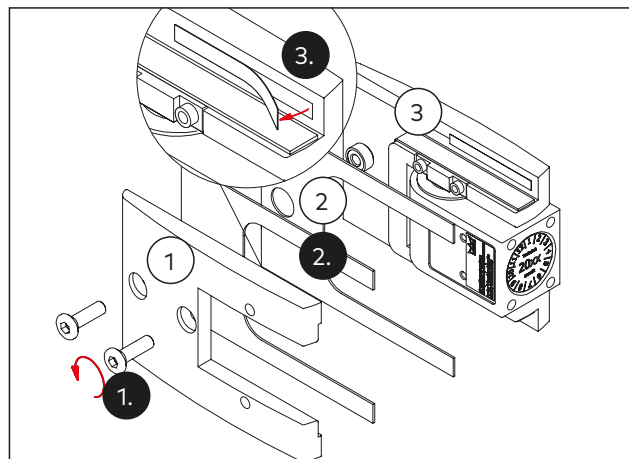

Fig. 55 Preparing the double action hinge
1. Disassemble the counter plate (Fig. 55/1).
2. Select the appropriate gaskets (Fig. 55/2) according to the glass thickness (see Table in Chapter 4.1).
3. Peel off the protection film of the adhesive tape on the base and counter plate (Fig. 55/1 and Fig. 55/3).